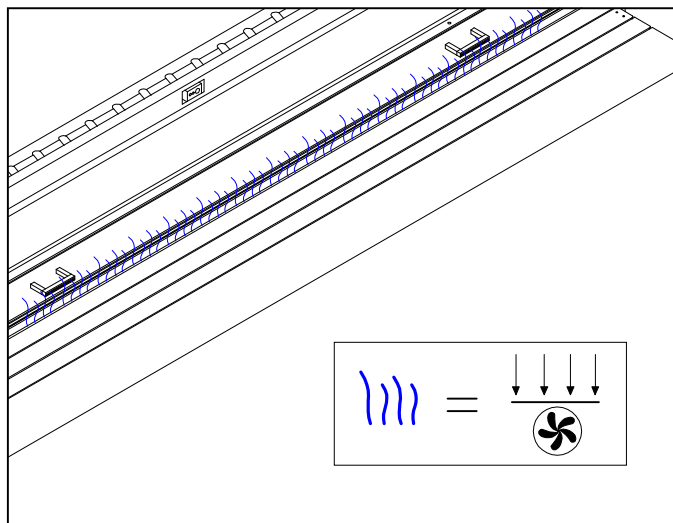

Fig. 9
**“VACUUM”** : When pressed, turns on the vacuum table fans. When pressed again, turns off the vacuum fans. (Figure 9) To adjust vacuum level, press and hold **“VACUUM”** while rotating the **MASTER DIAL**  to desired amount.